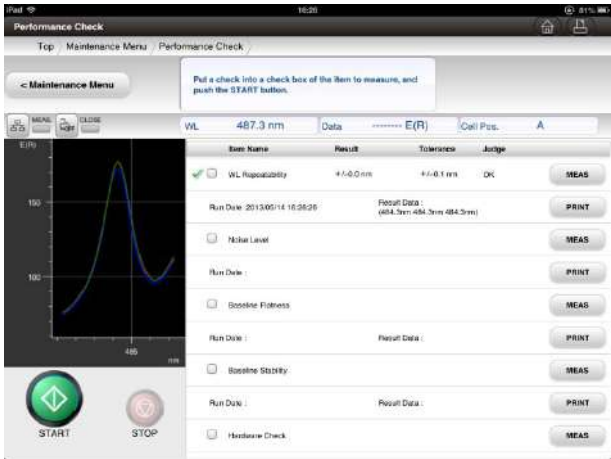

Fig. 6-8 Wavelength Repeatability Check Result Screen
- (2) The guidance for measurement under way is displayed and conditions are set. Then, the Wavelength repeatability check is performed.
- (3) After the Wavelength repeatability check is finished, the Wavelength Repeatability Check Result screen (Fig. 6-8) is displayed. The measurement result is displayed on the Wavelength Repeatability section and “OK” if the value is within the standard or “NG” if the value is out of the standard is displayed. In the case of “NG”, perform the check again in the above procedure. If “NG” is displayed again, see “7.10 Troubleshooting.”